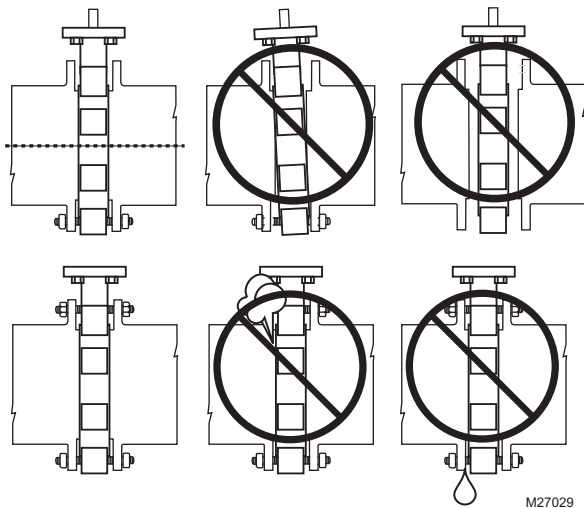

Fig. 17. Proper flange alignment
5. Mount the valve between aligned pipes. Mounting the valve on pipes that are not aligned causes leakage at the valve-to-pipe connection and add excess strain to flange bolt lugs.. See Fig. 17.